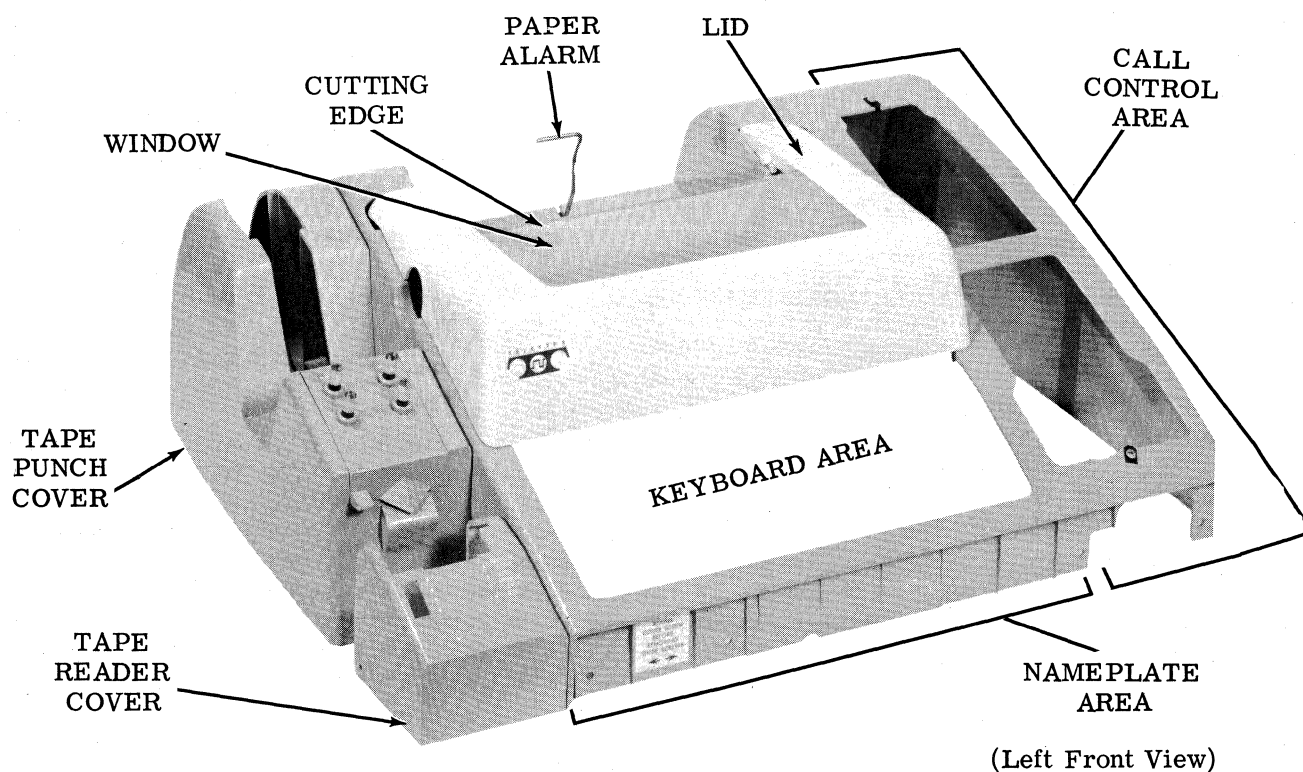

Figure 2 - Automatic Send-Receive (ASR) Cover
2.05 The ASR cover illustrated in Figure 2 is essentially the same as the KSR except that covers for the tape punch and the tape reader are attached.
2.06 When mounted on the set the cover is one integral whole. The tape punch and the tape reader covers are attached to the main cover and remain as part of the main cover when it is removed. In the particular cover shown in Figure 2, a paper alarm is mounted to the rear of the cover beyond where the paper roll would be mounted. Like the RO and KSR covers, the ASR cover is also gray and plastic.